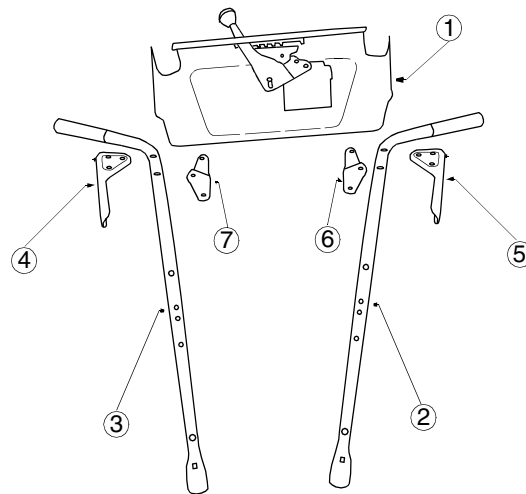

Figure 2
2. Locate auger control grip, part #4 in Figure 2. The triangular metal tab on the auger control grip must face the center of the handle panel.